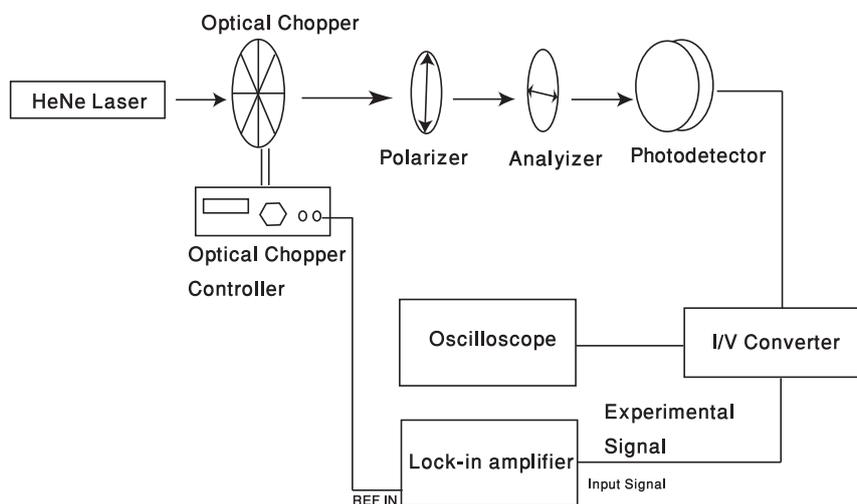

Figure 4: Measurement of a weak optical signal using an optical chopper and lock-in amplifier.
1. Connect the setup as shown in Figure 4.